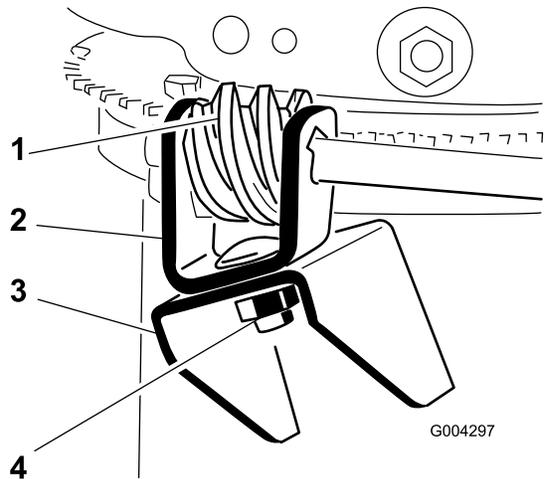

Figure 11
- Apply No. 2 general purpose grease to the worm gear (Figure 11).
- Loosely mount the worm gear and the bracket to the mounting flange with a bolt, a Belleville washer, and a locknut as shown in Figure 11.
- Slide the worm gear into the teeth of the chute retaining ring and tighten the locknut (Figure 11).